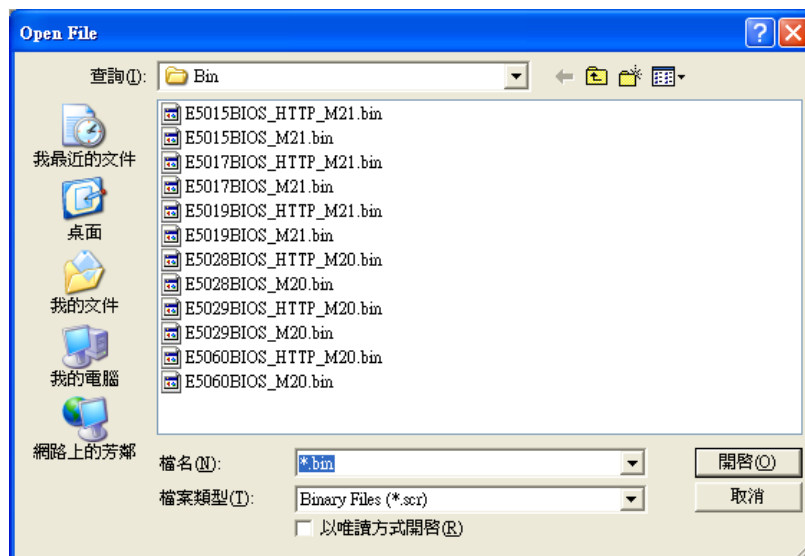

Figure -6
6. Select the firmware file your are going to update (see Figure -6)